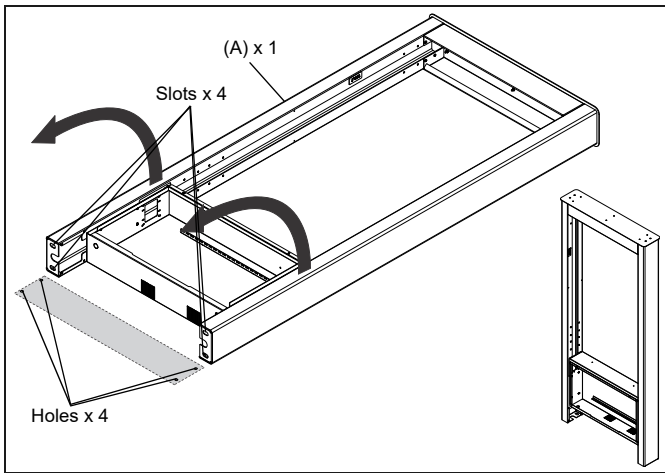

Figure 5
2. Carefully tilt the kiosk frame (A) upwards until standing vertically. Move the feet of the frame into position over the four drilled holes in floor. (See Figure 5)